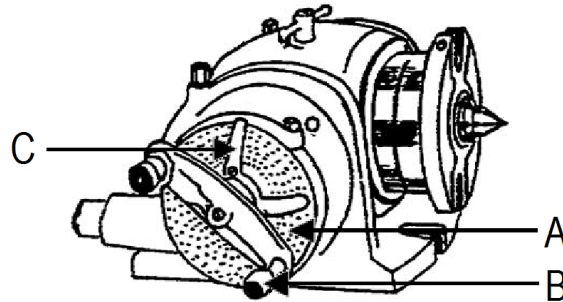

FIGURE 4
12.1 FIGURE 4 (below) shows an accessory used on a milling machine.
12.1.1 Name the accessory shown in FIGURE 4. (1)
12.1.2 State the function of the accessory shown in FIGURE 4. (1)
12.1.3 Label the accessory shown in FIGURE 4 by writing the answer next to the letter (A–C) in the ANSWER BOOK. (3 × 1) (3)